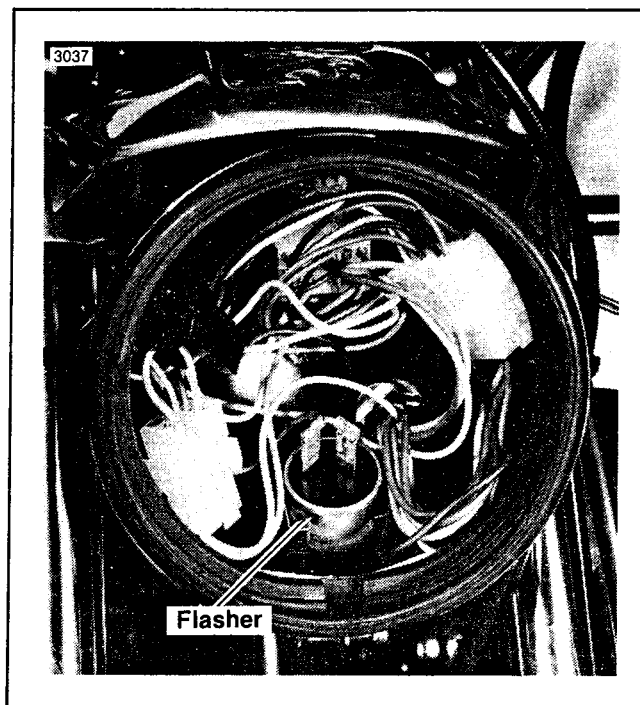

Figure 2. Flasher Installation
2. See Figure 2. Insert new flasher in clip as shown. Flasher terminals must be positioned towards the rear of the headlamp housing.
See Figure 2. Flasher must be positioned as shown to avoid interference with headlamp sealed beam unit. This interference could bend flasher terminals and dislodge flasher from mounting clip.